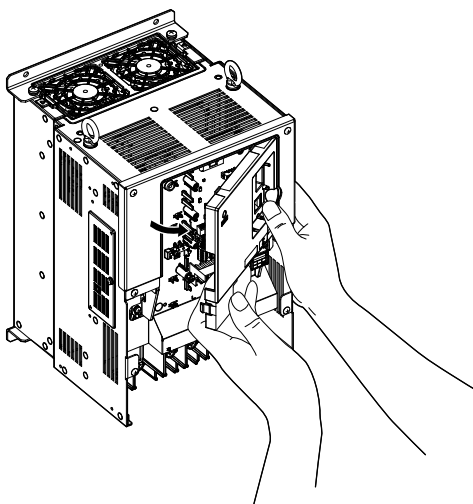

Figure 3.19 Remove the Front Cover (2A0010 to 2A0415 and 4A0058 to 4A1200)
4. Unhook the left side of the front cover then swing the left side towards you as shown in Figure 3.19 until the cover comes off.